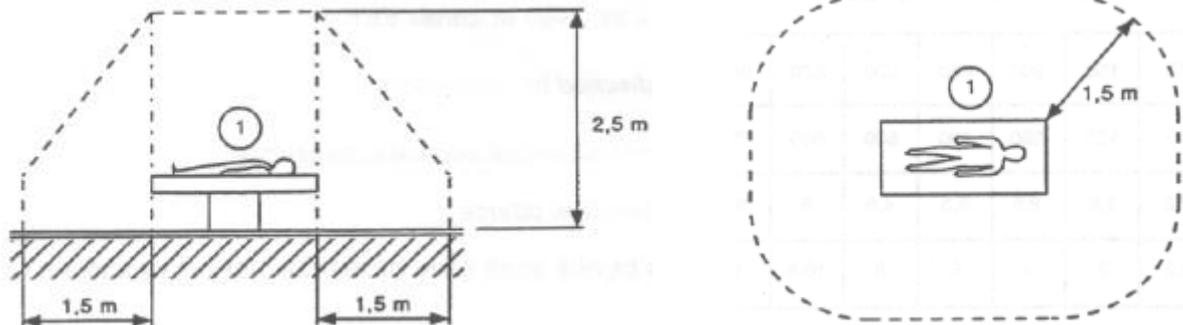

Fig 1 - Patient Area
- Within the “Patient Area” (see Fig 1) it is recommended to use easily washable devices that are protected from liquids.
- Within the “Patient Area” (see Fig 1) it is recommended to use washable, sterilizable rubber keyboards and mouse devices. For “touch screens” it is recommended to adopt capacitive technology (insensitive if used with gloves) because it discourages using gloves (sometimes contaminated).